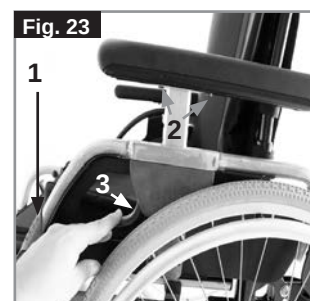

Fig. 23
You can adjust the length of the armrest by releasing the screws (2) push the armrest to the desired position and then re-tighten the screws (Fig. 23).